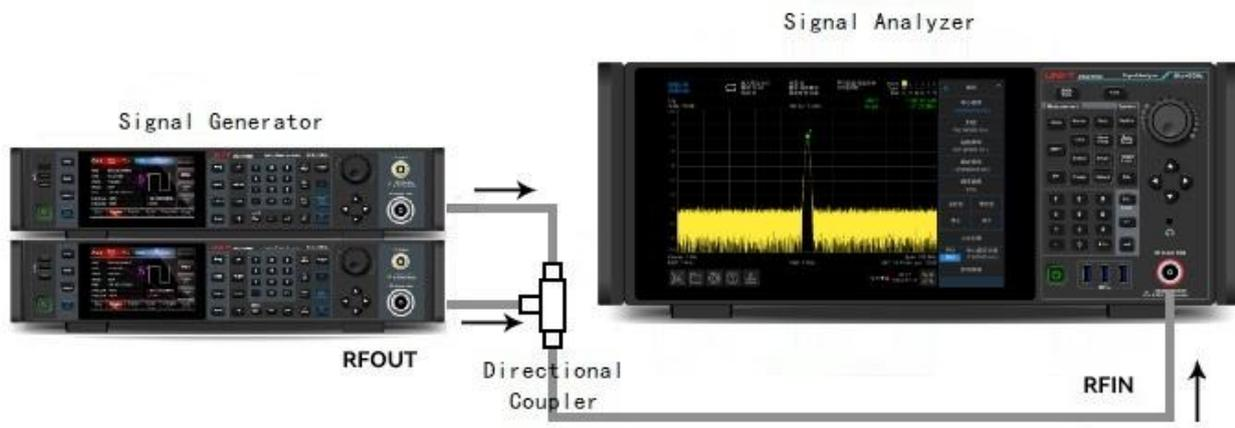

Figure 3-4 Instrument Setting for Acquiring Two-channel Signal
1. As shown in Figure 3-4, connecting **two signal sources** to the **RF IN** connector of the signal analyzer via a directional coupler.
1. As shown in Figure 3-4, connect **two signal sources** to the **input connector** of the signal analyzer.